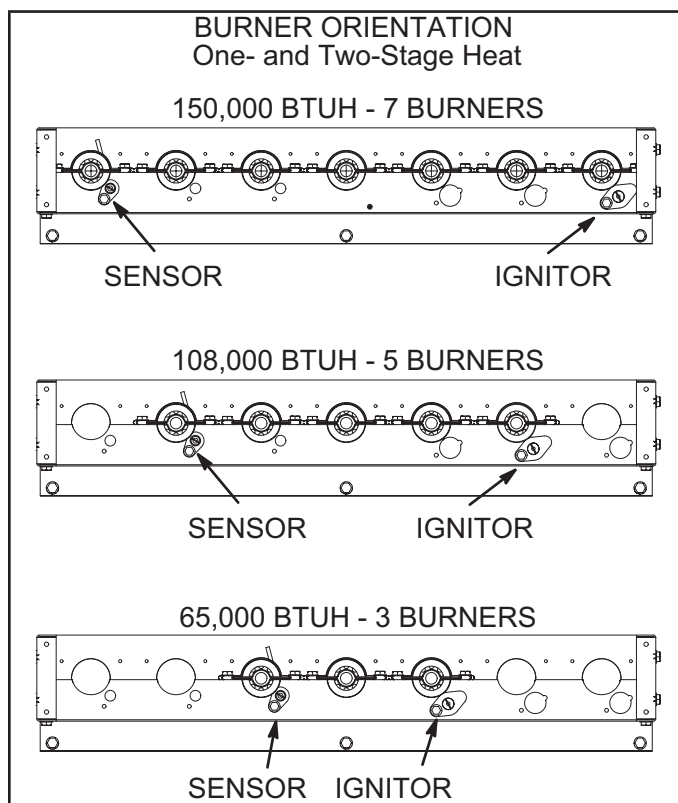

FIGURE 36
- 6 - Replace burners and screws securing burner. See FIGURE 36.